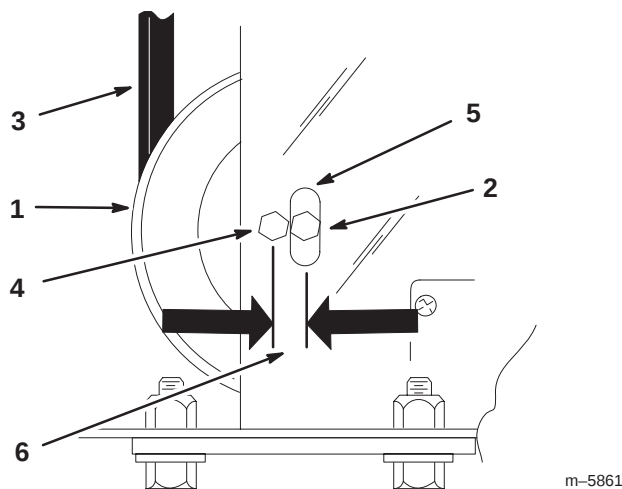

Figure 11
1. Install the PTO drive belt onto the drive pulley assembly (Figures 11 and 20).
Note: The bolt head on the drive pulley assembly, should be approximately centered horizontally, in the frame slot (Fig. 11). View this from the right-hand side of the machine.
Note: The bolt head on the drive pulley assembly, should be approximately a 1/4 in. (6mm) rearward of the center in the frame slot (Fig. 11). View this from the right-hand side of the machine.